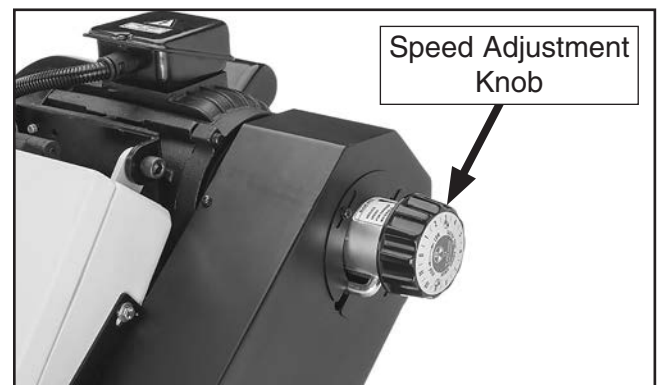

Figure 33. Speed adjustment knob location.
2. Rotate speed adjustment knob (see **Figure 33**) clockwise to decrease blade speed and counterclockwise to increase blade speed.